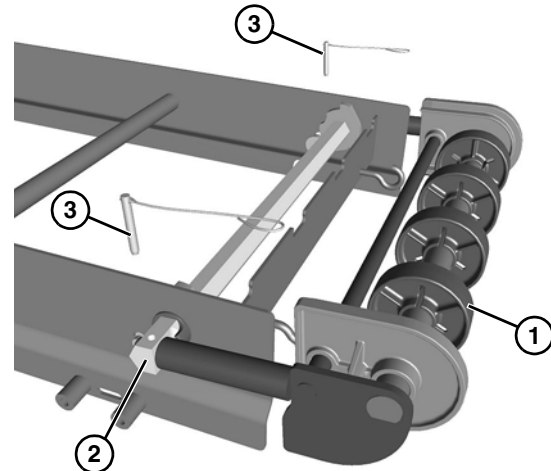

Figure 21
- Place the idler tail assembly (**Figure 21, item 1**) against the holes in the tip up hex shaft assembly (**Figure 21, item 2**) and secure with a pull pin (**Figure 21, item 3**) on each side.